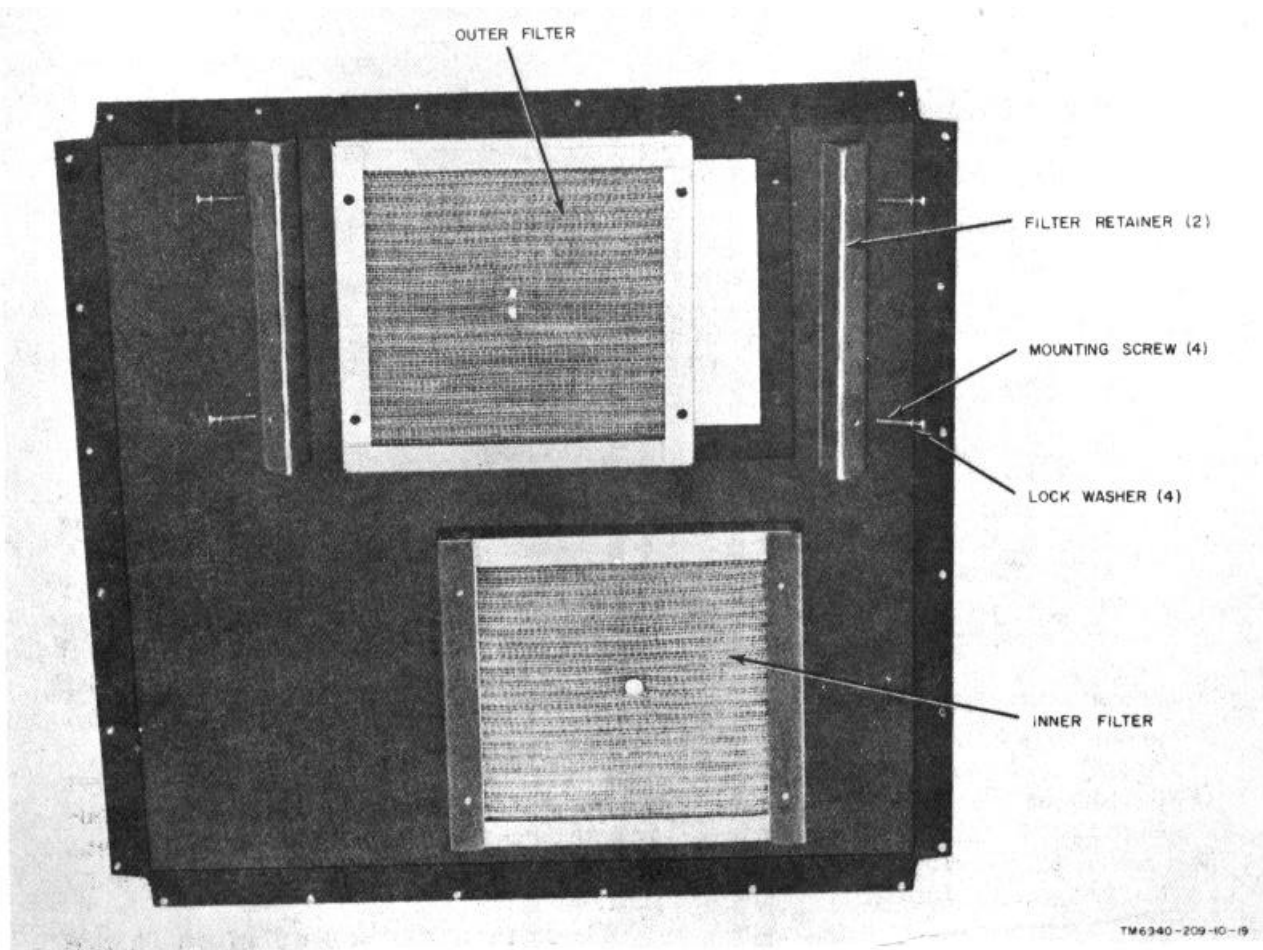

Figure 16. Air filters, exploded view.
(1) Remove dust and loose dirt with a clean soft cloth.
(2) Remove grease, fungus, and ground-in dirt from the case; use a cloth dampened (not wet) with cleaning compound.
(3) Remove dust or dirt from plugs and jacks with a brush.
(4) Clean the front panels, indicator glass, and control knobs; use a soft clean cloth. If dirt is difficult to remove, dampen the cloth with water; mild soap may be used for more effective cleaning.
*b. Air Filter* (fig. 16). The air filters in the radar trainer are metallic and contained in the cover of the transmitter and the control unit. Clean the air filters as follows:
(1) Loosen the screws which secure the cover to the transmitter or control unit cabinet and remove the cover.
- (2) Remove the screws which hold the filters to the cover.
- (3) Scribe a small identifying mark on the outer filter which will identify it as the outer filter. Scribe a mark identifying its outer edge and top edge.
- (4) Remove the outer filter.
- (5) Scribe a small identifying mark on the inner filter which will identify it as the inner filter. Scribe a mark identifying its outer edge and top edge.
- (6) Remove the inner filter.